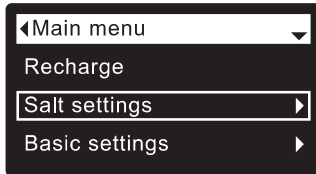

FIG. 90
1. From any of the rolling status screens, press the SELECT (O) button to display the **Main menu**.
2. Press the DOWN (▼) button to scroll through the menu options until **Salt settings** is highlighted (See Figure 90).